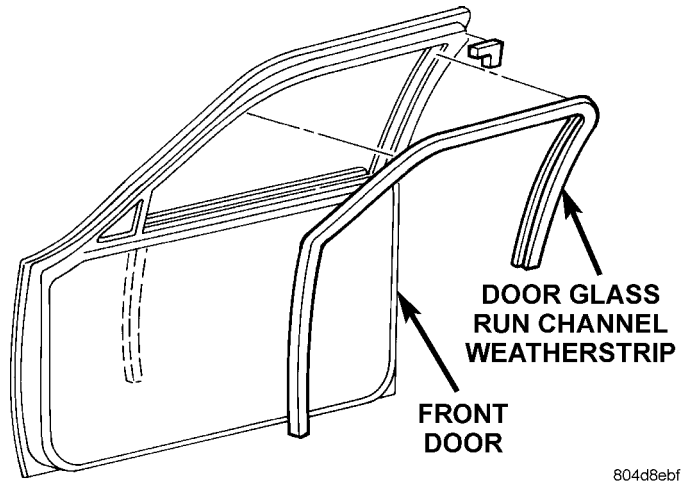

Fig. 24 Front Door Glass Run Channel Weatherstrip
- (1) Lower window glass.
- (2) Grasp seal from upper run channel corner and firmly separate weatherstrip from flange (Fig. 24).